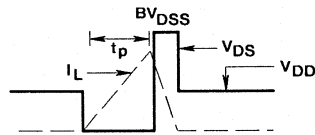

Figure 15 — Unclamped Energy Waveforms
4. $V_{DD} = 50\text{V}$, starting $T_J = +25^\circ\text{C}$, $L = 53\text{mH}$, $R_{GS} = 25\Omega$, $I_{PEAK} = 2\text{A}$. See Figure 15.
4. V_{DD} = 50V, Start T_J = +25°C, L = 53mH, R_{GS} = 25Ω, I_{PEAK} = 2A (See Figure 15)